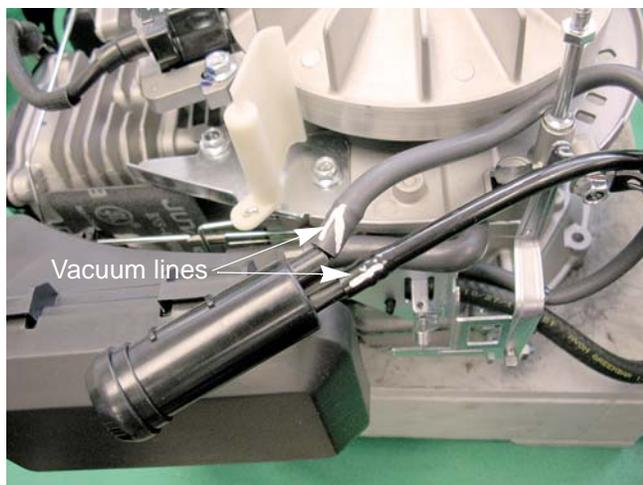

Figure 4.28
7. Mark the vacuum lines to identify which nipple they are connected to. See Figure 4.28.